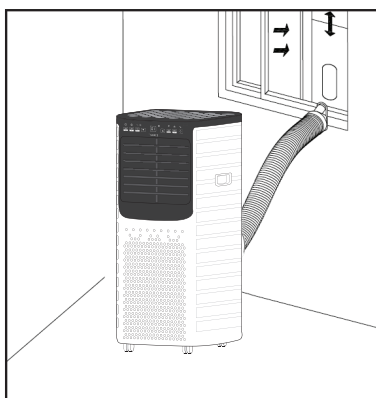

Figure 5
b.) Extend the exhaust hose. Install the elliptical end of exhaust hose assembly into the corresponding elliptical hole in window seal plate assembly (as shown in Figure 5 and Figure 6).